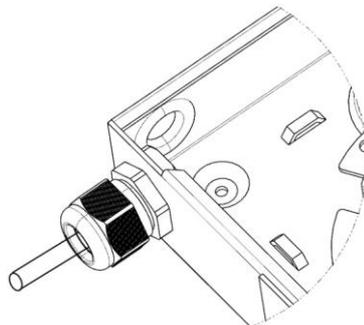

Fig.5
3.4.2 Back Cable Entry & Retention (Fig. 5)
- Cable gland to be assembled to the enclosure in entry holes as shown in Fig.5.